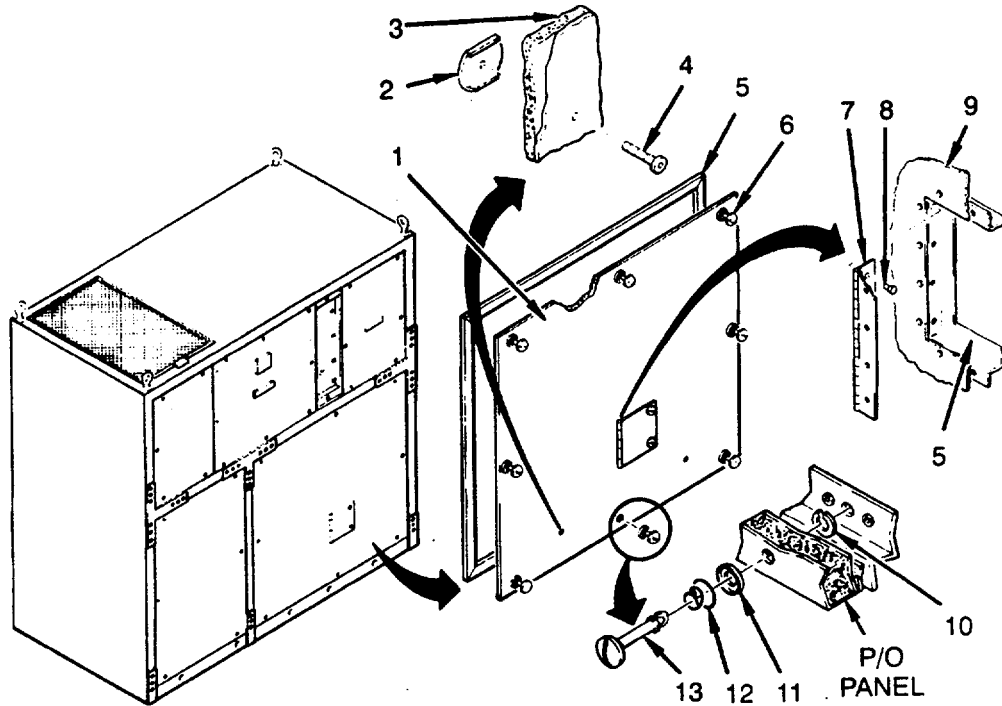

Figure 4-32. Right Front Condenser Panel
1. Loosen eight captive fasteners (6) (see Figure 4-32).
2. Remove panel (1).